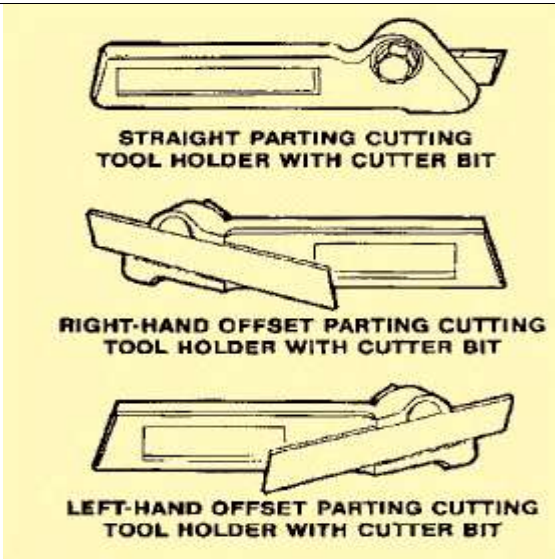

Figure 7-6. Parting tool bits.
**The Parting Tool Bit:** Is also known as the cutoff tool bit. This tool bit has the principal cutting edge at the squared end of the bit that is advanced at a right angle into the workpiece. Both sides should have sufficient clearance to prevent binding and should be ground slightly narrower at the back than at the cutting edge. Besides being used for parting operations, this tool bit can be used to machine square corners and grooves. (Figure 7-6).